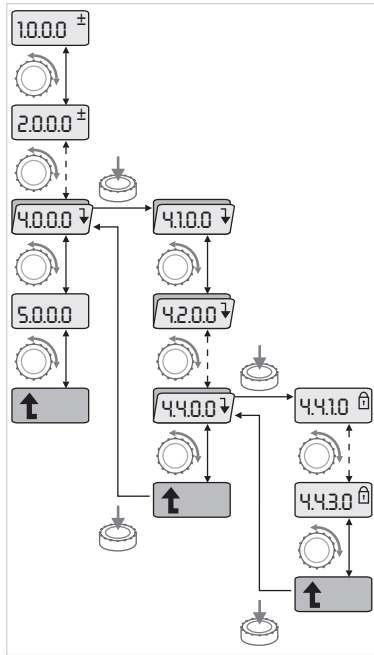

Fig. 36: Navigation example
- Carry out general menu navigation as follows (for an example, see Fig. 36):